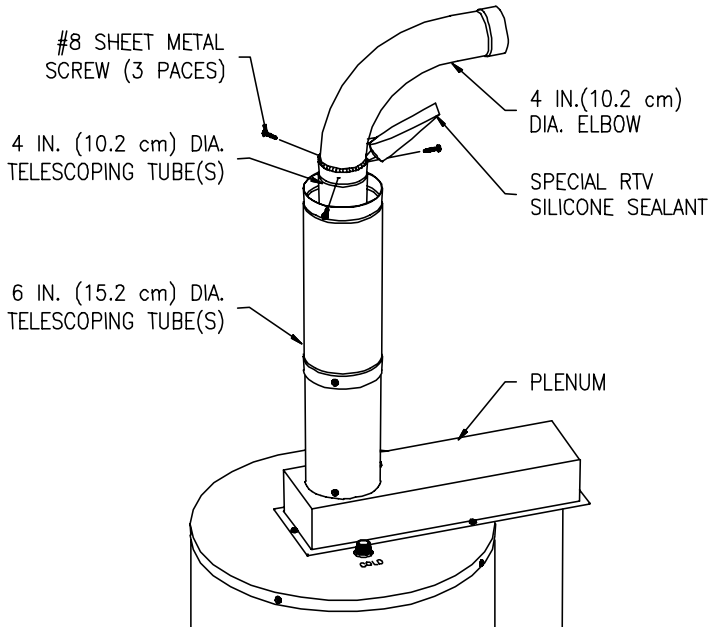

Figure 8
7. Insert the straight end of the four (4) inch (10.2 cm) diameter elbow one (1) inch (2.5 cm) *(or until seated)*, into the end of the four (4) inch (10.2 cm) diameter telescopic tube(s). Make sure the four (4) inch (10.2 cm) diameter elbow is oriented in the correct direction. Drill three (3) 1/8 inch (3.2 mm) diameter holes, 120° apart, through the four (4) inch (10.2 cm) diameter telescopic tube(s) into the four (4) inch (10.2 cm) diameter elbow. Fasten with three (3) #8 sheet metal screws (supplied). Using the supplied RTV silicone sealant, apply a sufficient amount to seal the joint. (See Figure 8).